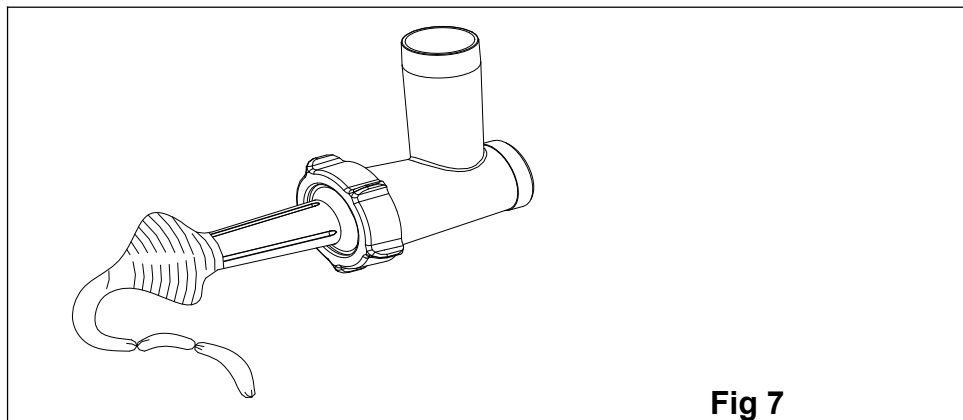

Fig 7
3. Set clean small intestine to sausage pole as the figure 7, then place blended meat powder into funnel.